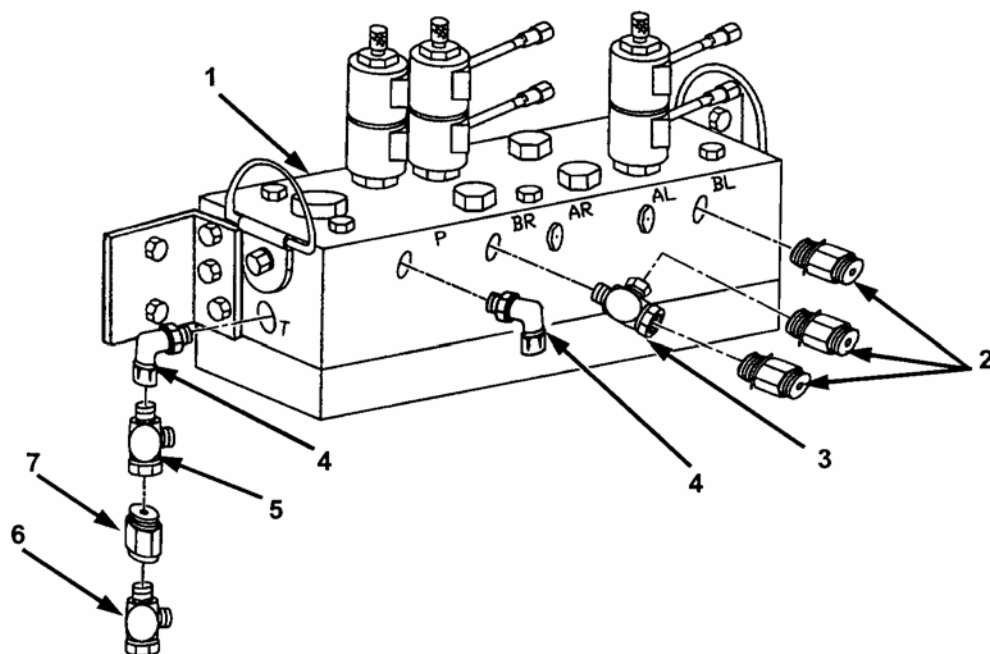

Figure 2-25. Track and Blade Manifold Fittings.
- i. Install elbow 2062-8-8S (Figure 2-25, 4) to track and blade manifold (1), port T.